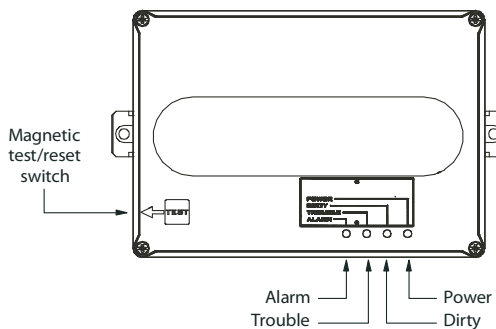

Fig. 2 - Sensor Assembly
2. Locate Sensor from the CRSMKSEN002A00 kit. (See Fig. 2.)
3. Locate Sensor from the CRSMKSEN002A00 kit. (See Fig. 2.)